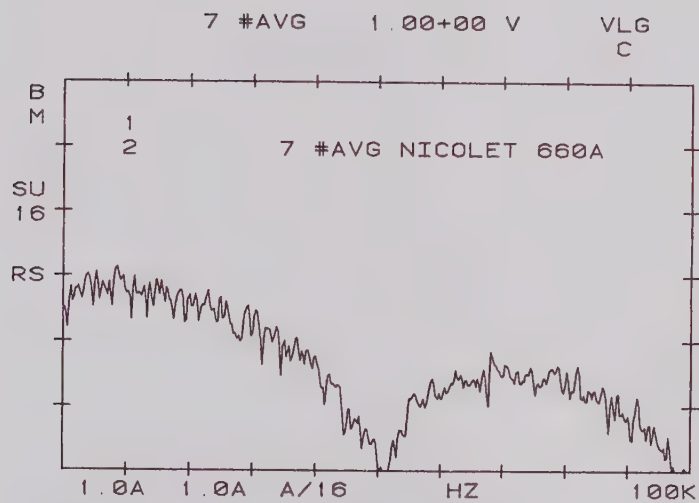

FIGURE T-7
- j. Insert ENTRY/RECALL field contents into TEXT LINE #2. See Figure T-7. CONTROL Sequence: RECALL; AVGN.